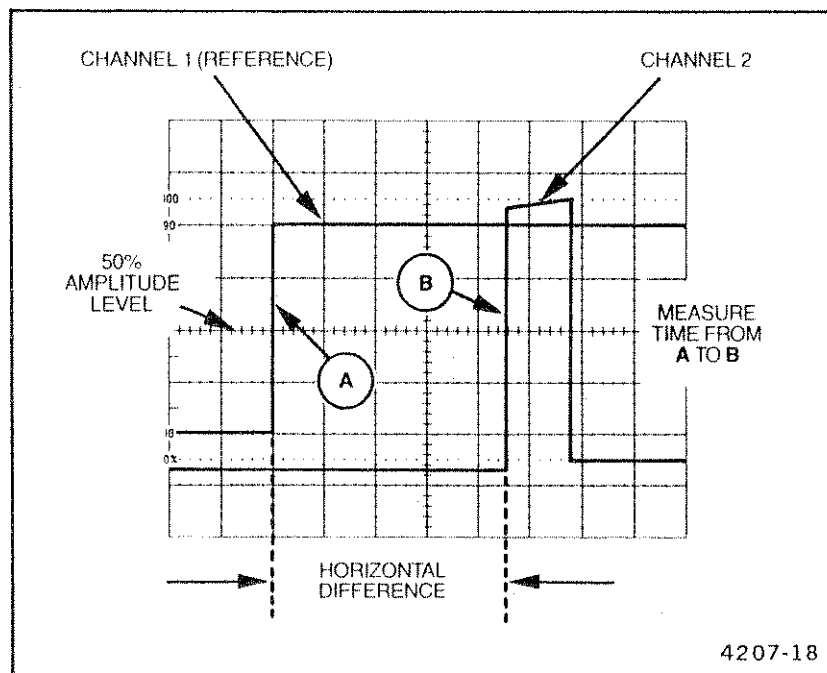

Figure 3-7. Time difference between pulses on time-related signals.
8. Set the SEC/DIV switch to a sweep speed that provides three or more divisions of horizontal separation between measurement points on the two displays. Center each of the displays vertically (see Figure 3-7).
EXAMPLE. In Figure 3-7, the SEC/DIV switch is set to $50 \mu\text{s}$ per division, HORIZONTAL MODE is set to MAG, and the MAG switch is set to X10. The horizontal difference between waveform measurement points is 4.5 divisions.